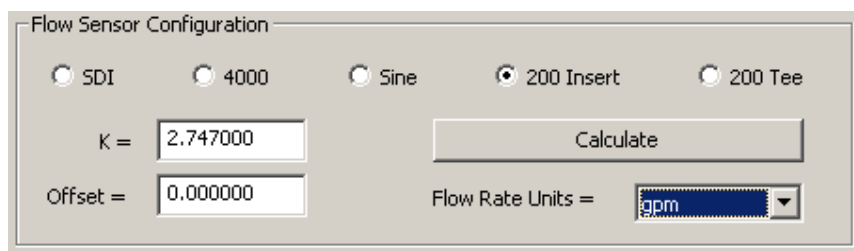

Figure 15: Flow sensor configuration
8. When communication has been confirmed, click the **Parameters** button to display the Parameters screen. See the example in Figure 15.